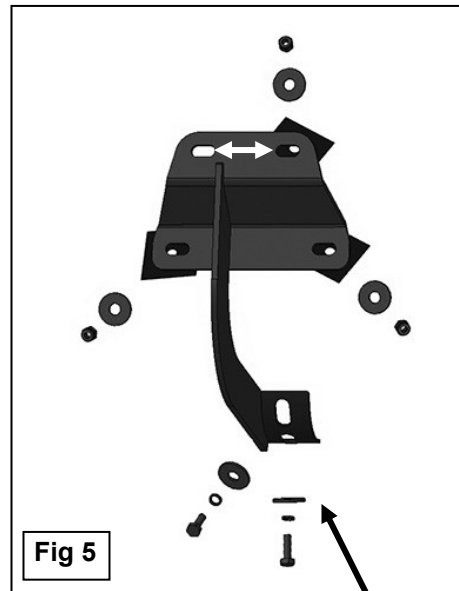

Fig 5
5. Select the driver/left Sidebar. Carefully position the Sidebar onto the (3) Mounting Brackets. **IMPORTANT:** Do not slide, (front to back or rotate), the Sidebar on the Brackets or damage to the finish on the Sidebar may result. Attach the Sidebar to the Mounting Brackets with (4) 8mm x 25mm Hex Bolts, (4) 8mm Lock Washers and (4) 8mm Flat Washers, (**Figure 5**). Do not tighten hardware.